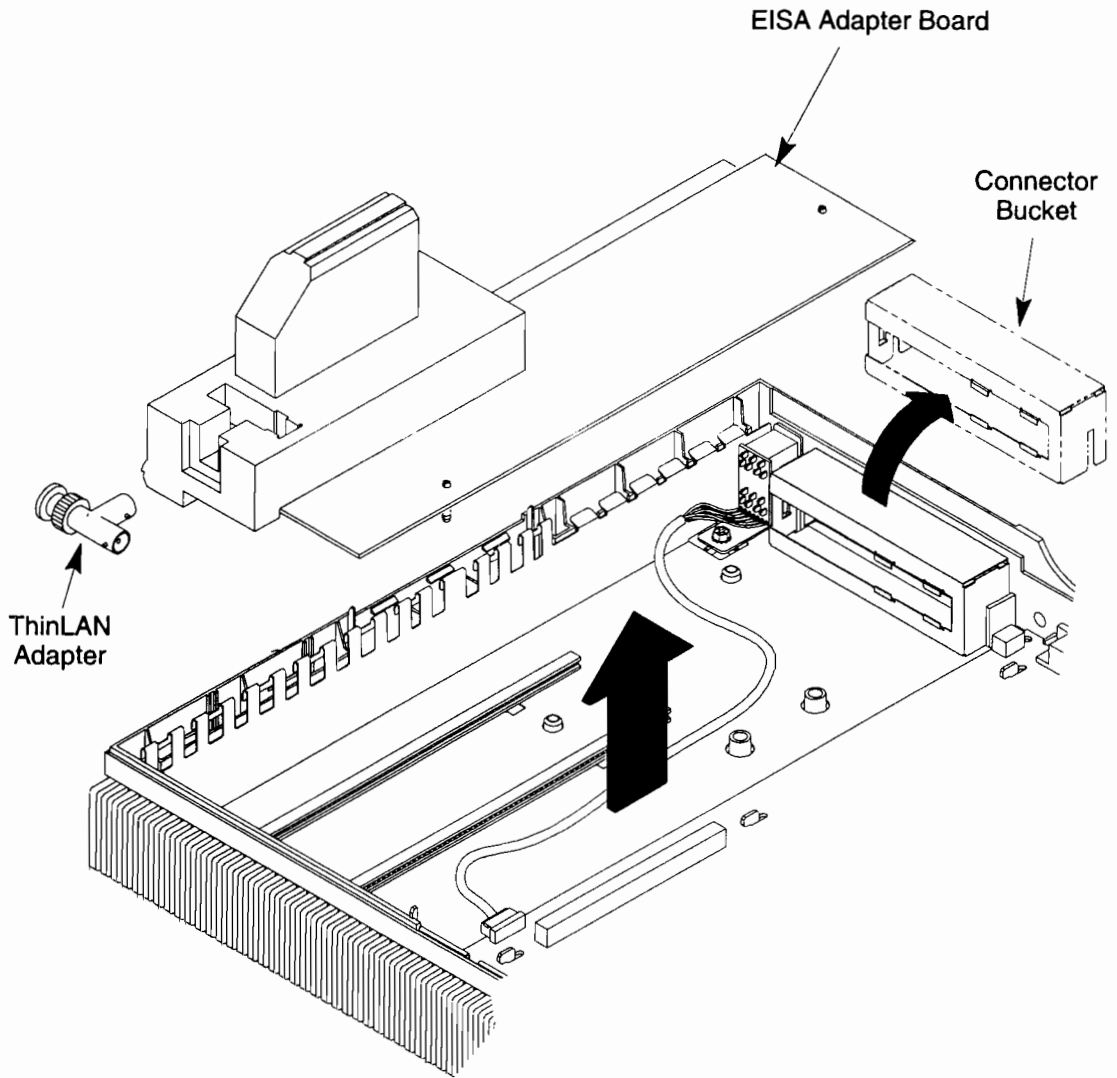

Figure B-12. Removing EISA Option Components
- 3.** Remove the EISA adapter board, EISA ThinLAN adapter, and connector bucket from the system unit, as shown in Figure B-12.